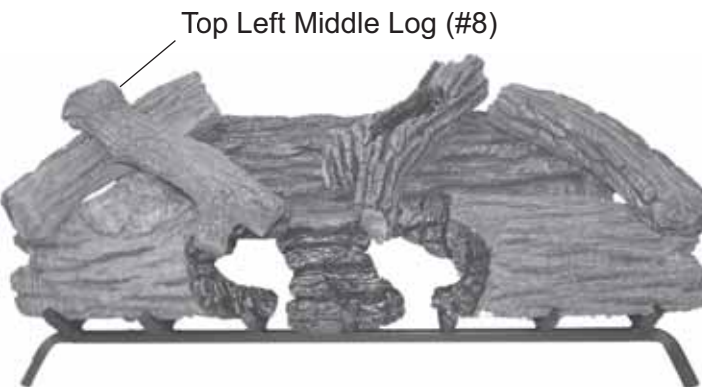

Figure 43 - Installing Top Left Middle Log (#8)
9. Install top left middle log #8. *See Figure 43.*